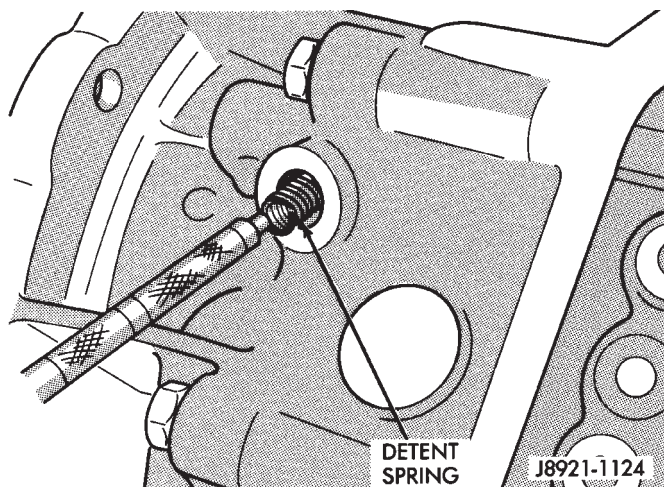
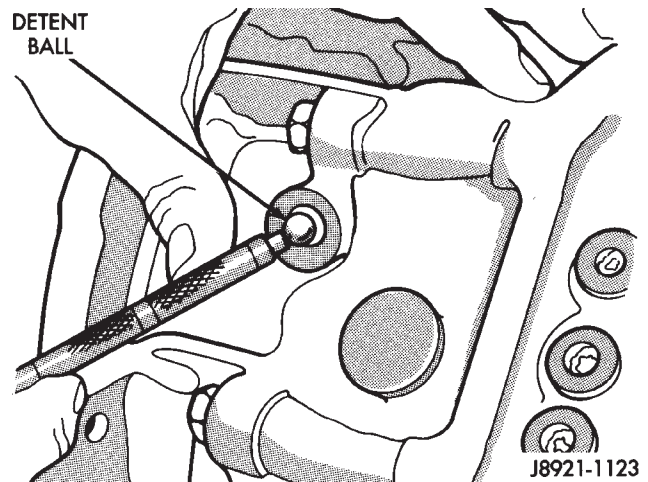

Fig. 21 Remove Detent Spring
Fig. 22 Remove Detent Ball
(9) Remove detent ball spring and ball with pencil magnet (Fig. 21), (Fig. 22).